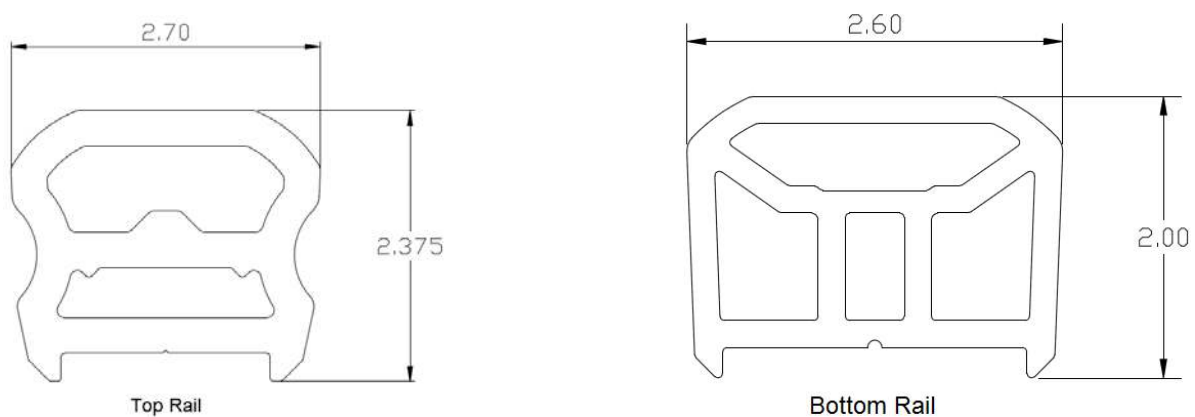

FIGURE 3 - RADIANCE RAIL® EXPRESS, RAIL PROFILES
3.3.1. *RadianceRail® Express* rails (top and bottom) and post sleeves are co-extruded with a PVC color cap layer and wood/plastic composite core. See Figure 3.